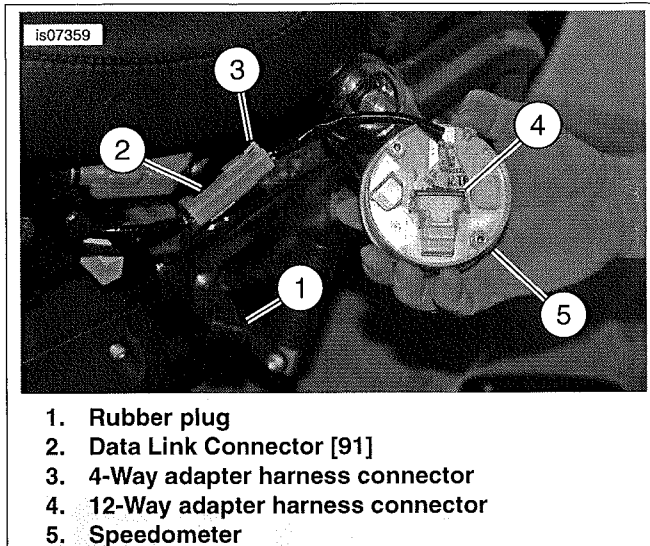

Figure 2. Connect Speedometer to Copy Odometer Data
4. See the service manual and Figure 2. Locate data link connector [91] (2).
5. Remove the rubber plug (1) from the data link connector [91] and install the 4-way connector (3) of the adapter harness from the kit.
6. Install the 12-way connector (4) of the adapter harness to the new gauge (5). Hold the gauge during the copying process.